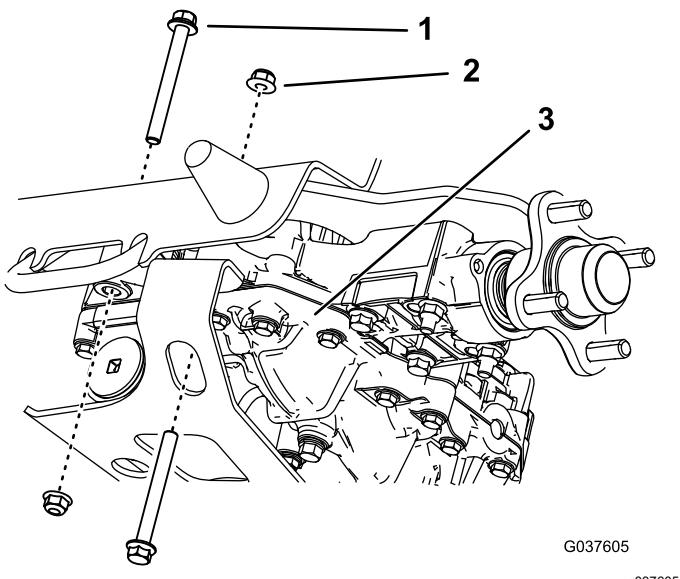

Figure 9
- 5. Remove the 2 rear bolts and 2 nuts from the right transaxle (Figure 9). Retain the nuts.